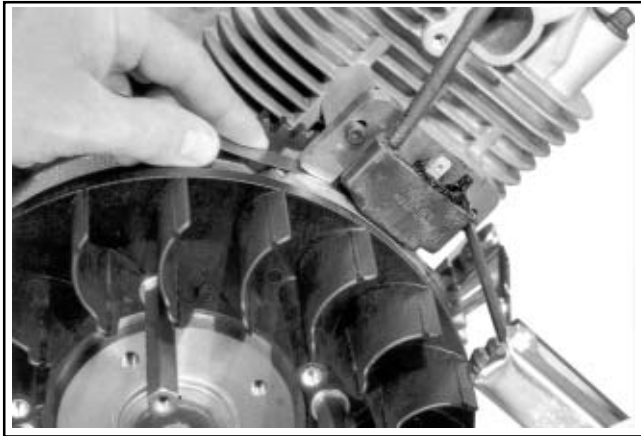

Figure 11-50. Setting Ignition Module Air Gap.
- Insert a **0.30 mm (0.012 in.)** flat feeler gauge between the magnet and the ignition module. See Figure 11-50. Loosen the screws enough to allow the magnet to pull the module down against the feeler gauge.